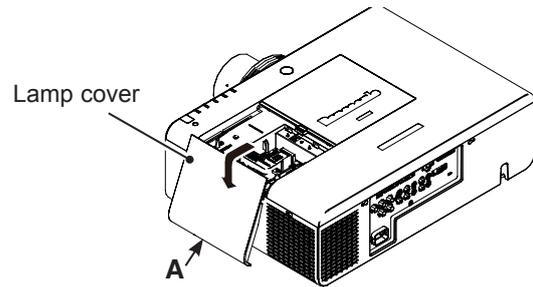

Fig. 1
- 1** Loosen 1 screw-A on the lamp cover and slide it to open (Fig. 1).